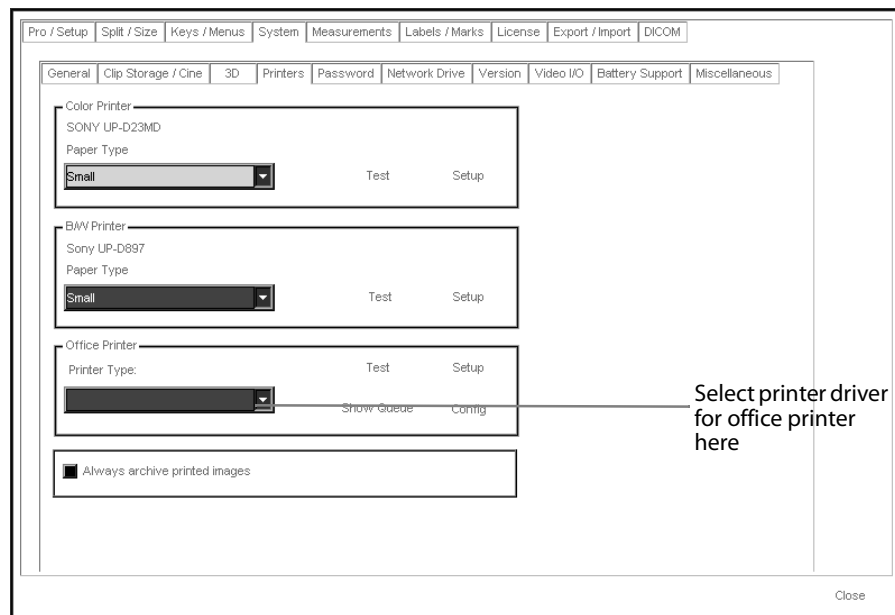

Figure C-8. The Printer Setup window.
- 2 Select the correct printer driver from the drop-down box (see Fig C-8).